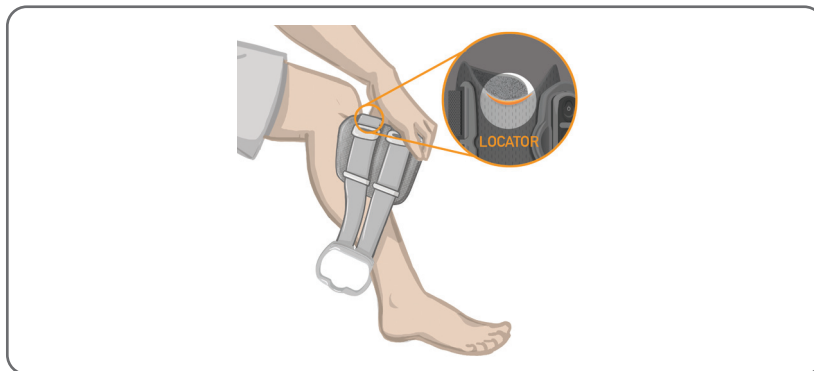
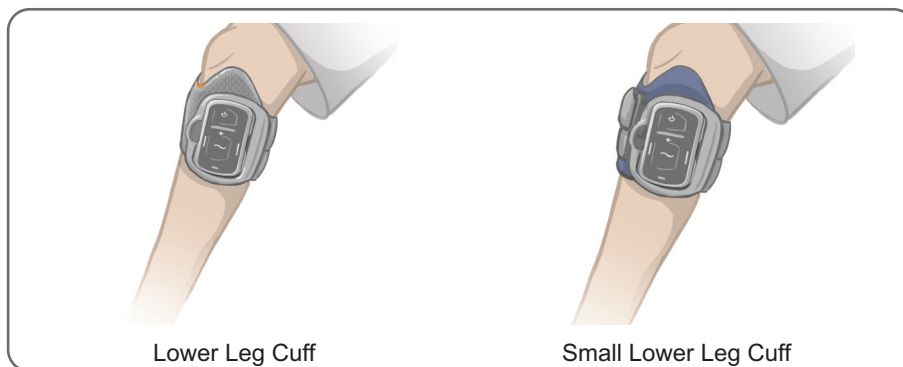

Figure 6-12: Positioning the Lower Leg Cuff on the Leg
Figure 6-14: Lower Leg Cuff fastened on the leg
2. Make sure the electrodes are securely attached. Then, grasp the front of the Lower Leg Cuff by the cradle and tilt the bottom of the cuff up. Slide the locator up your leg until it rests snugly and comfortably below your kneecap. See Figure 6-12.
5. Make sure the Lower Leg Cuff is correctly positioned. See Figure 6-14. Reposition the Lower Leg Cuff as necessary. Adjust the hook and loop fasteners to ensure a snug fit. See Figure 6-12.